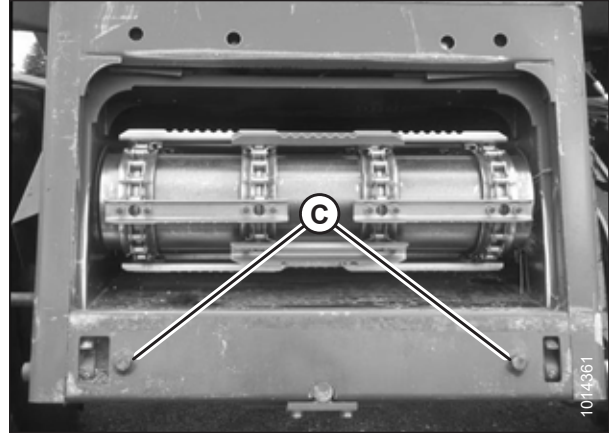

Figure 4.53: AGCO Group Alignment Pins
3. Start the engine and slowly approach the header until the feeder house is directly under float module top cross member (A) and alignment pins (C) (refer to Figure 4.53, page 322) on the feeder house are aligned with holes (B) in the float module frame.